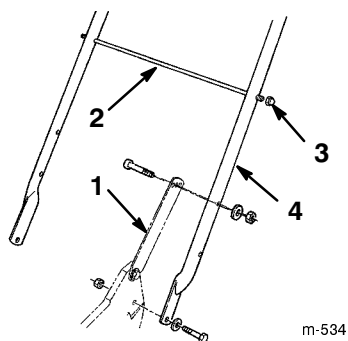

Figure 2
2. Secure the handle latches to the handle with two 5/16-18 x 1-1/2 in. (8 mm x 38 mm) cap screws, washers, and nylon insert locknuts (Fig. 2). Position the locknuts and the washers on the inside of the handle.
3. Slide the bag support rod through the **top** mounting holes in the handle and secure each end with a cap locknut (Fig. 2).